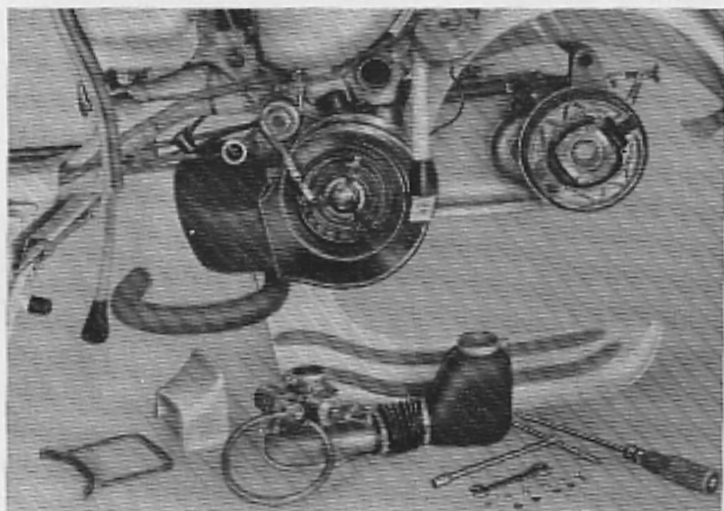

Fig. 15
- 22 To remove carburettor and air intake: disconnect throttle cable, loosen securing ring fixing air intake to frame and securing ring fixing carburettor to manifold (8mm spanner). Remove carburettor and air intake. Disconnect fuel pipe and choke control (10mm spanner). (See Fig. 15).